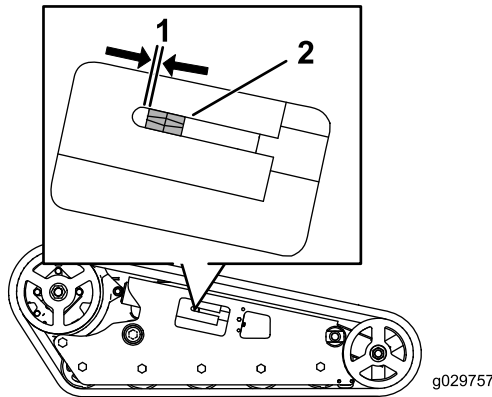

Figure 52
The tension nut should be 0.64 cm (1/4 inch) away from the tangent of the tension tube slot (Figure 52). If it is not, adjust the track tension using the following procedure:
4. Using a 1/2 inch drive socket, turn the tensioning screw counter-clockwise until the distance between the tension nut and the back of the tension tube is 0.64 cm (1/4 inch), as shown in Figure 52)
10. Turn the tensioning screw counter-clockwise until the distance between the tension nut and the back of the fork tube (Figure 52) is 0.64 cm (1/4 inch).
10. Turn the tensioning screw counter-clockwise until the distance between the tension nut and the tangent of the tension-tube slot (Figure 52) is 0.65 cm (1/4 inch).